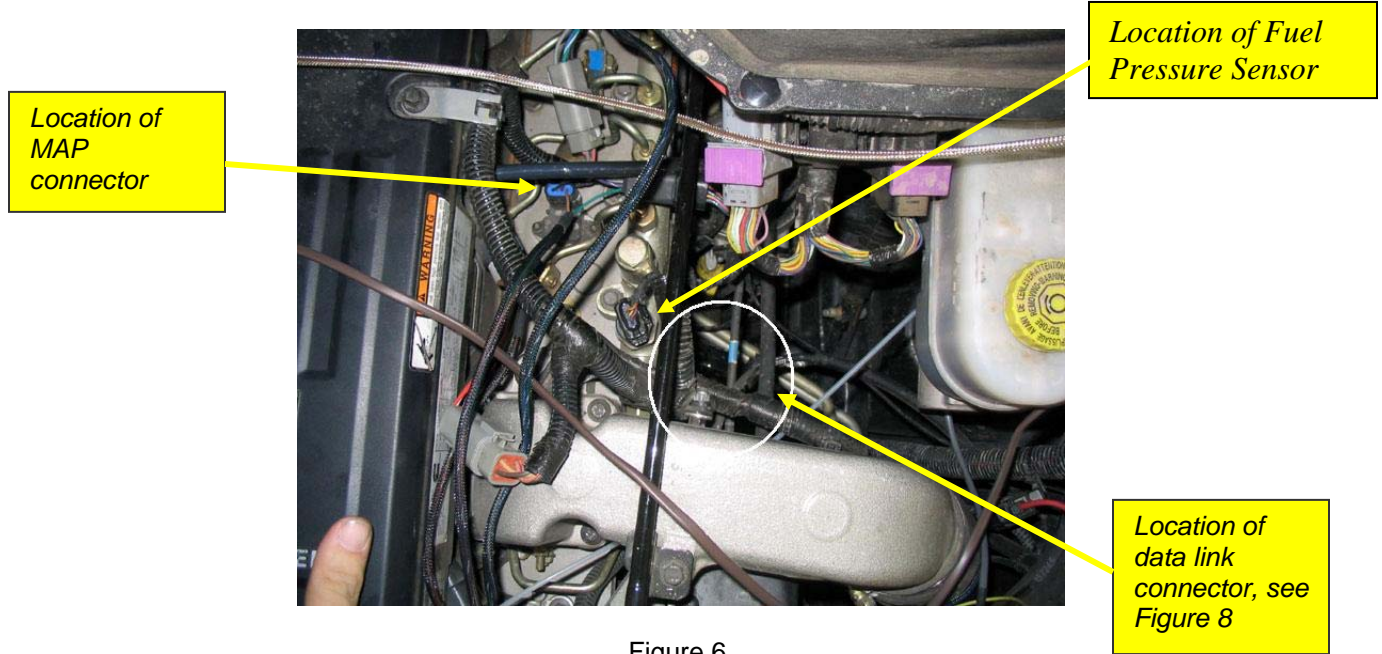

Figure 6.
5. Now install the MAP connector which is between the middle and back injector connectors on top of the motor, see figures 6 & 7.
6. Next, install the data link connector. The data link connector is behind the air intake horn down toward the bottom of the engine (see figures 6, 8, & 9).